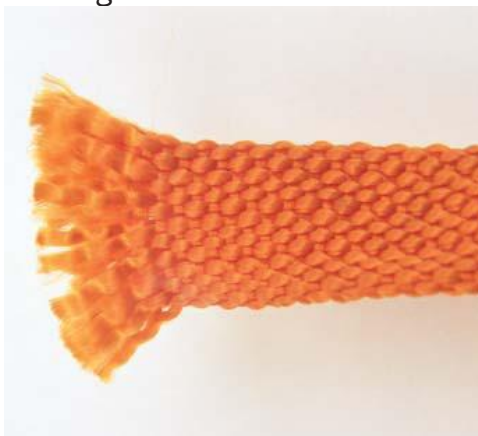

Figure 12.2 Cut, damaged yarn
- Frequently inspect webbing for signs of damage to the tape or stitching. The edges of flat (as opposed to tubular) tapes are particularly prone to cuts and abrasions, especially whilst under load. If there is a small nick in the side of the sling then not only is the number of yarns taking the strain reduced, but stress concentrations are set up on the damaged part of the tape – you should consider discarding any webbing in this state. Fortunately, it is generally very easy to spot this type of damage to slings and tapes – see Figure 12.2.